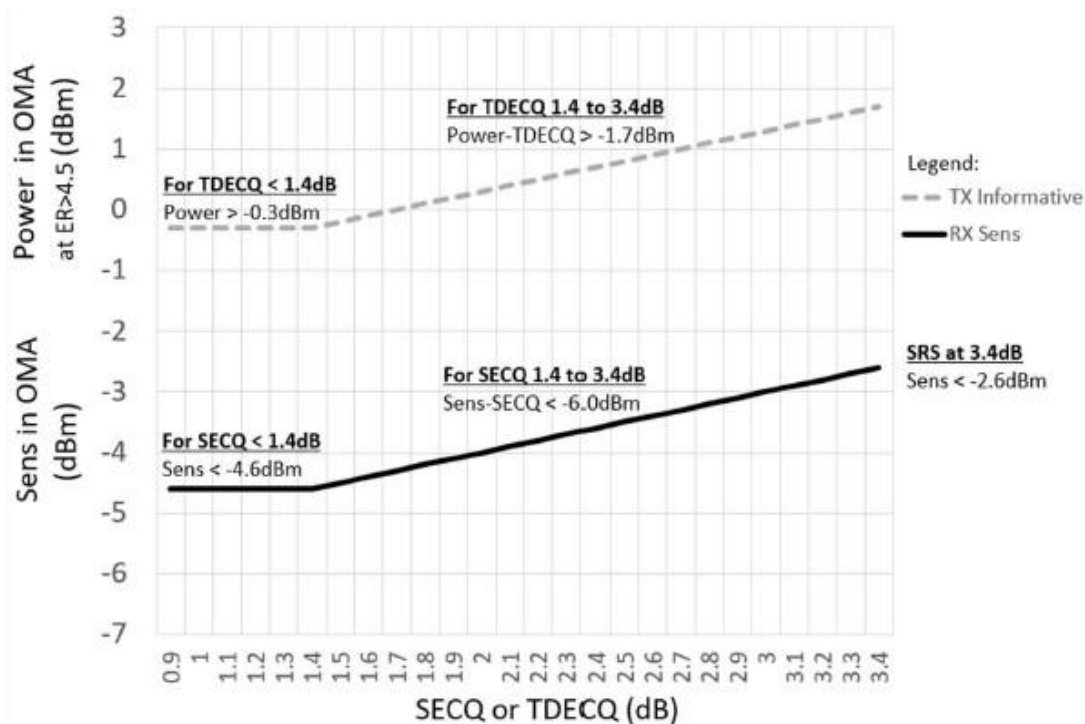

Figure 3. Stressed receiver sensitivity mask for 400GE-FR4
1. Measured with conformance test signal for BER = 2.4×10^{-4} . A compliant receiver shall have stressed receiver sensitivity (OMA outer), each lane values below the mask of Figure 3, for SECQ values between 0.9 and 3.4 dB.